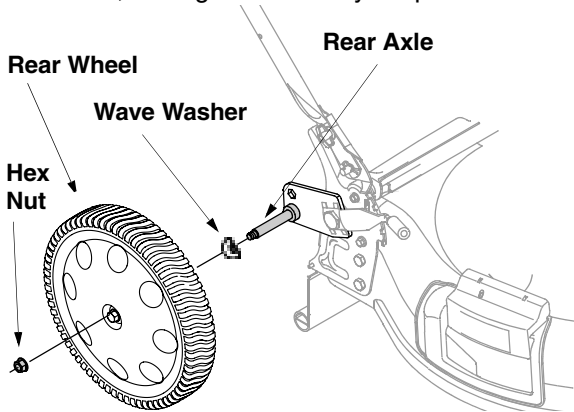

Figure 6
- Remove the hex flanged nut on the rear axle from each side and place the rear wheel on the axle. Make sure the wave washer is on the inside of the wheel, between the wheel and the lawnmower. See Figure 6. Reinsert the flanged nut into the axle as shown, and tighten securely. Repeat on other side.